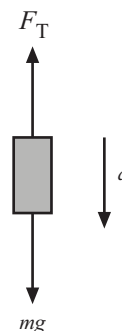

Figure 2.4: Free-body diagram of hanging mass
- Calculate the tension in the string (F_T). Since the hanging mass is accelerating, the string tension is not the weight of the mass. Writing Newton's 2nd Equation for the free-body diagram in Figure 2.4 yields: